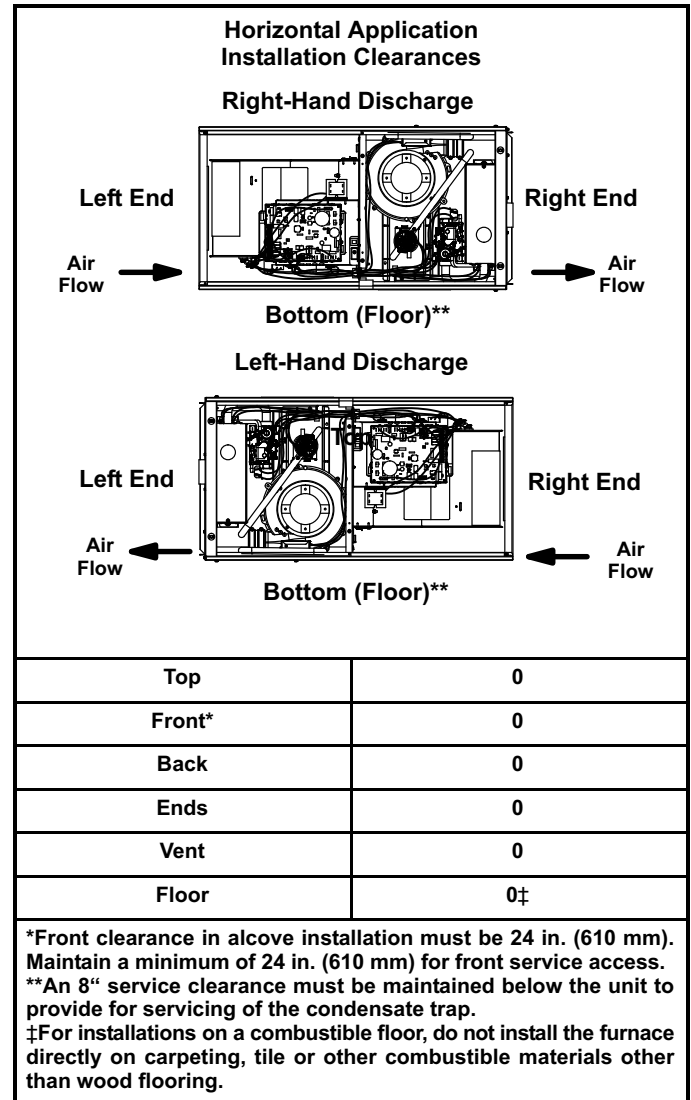

FIGURE 11
Refer to figure 11 for clearances in horizontal applications.
- 1 - Select location for unit keeping in mind service and other necessary clearances. See figure 11.